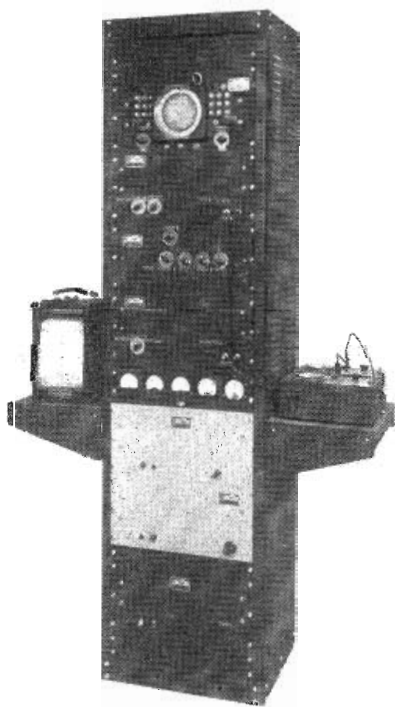

Fig. 4: Waveforms of the correlator using pulse sampling and multiplication of time amplitude coordinates
Waveform (1) of Fig. 4 shows a section of a random time function  $f(t)$ . A sine wave master oscillator is used to derive the timing and sampling pulses of waveforms (2a) and (2b). In addition to wave shaping networks, the sine wave is passed through an R-C phase shift network to give an initial coarse adjustment of  $\tau$ . The timing pulses are then time-modulated in discrete steps, the time modulation being accomplished by means of a stepping relay mounted with precision resistors and connected to a well-regulated supply. There are 90 discrete voltage levels available from the relay. These voltage levels are linearly
period  $T$  as indicated by waveform (3) and (4b), Fig. 4. In this operation the amplitude of the "a" and "b" points are stored on a capacitor in a so-called "box-car" generating circuit.
The amplitude of waveform (3), Fig. 4 is a function of the amplitude of  $f(t)$  at each "a" point,  $a_n$ , giving the desired amplitude coordinate. A linear sawtooth is used to transform the stored amplitude of waveform (4b), Fig. 4, to an equivalent time parameter represented by the width modulated pulses of waveform (5), Fig. 4.
Waveforms (3) and (5), Fig. 4, are then placed in coincidence in a gating circuit, the output being a series of pulses of varying amplitude and width as indicated by waveform (6). The area of each of these pulses is proportional to the product of a pair of points separated  $\tau_k$  seconds in time.
Because of the method of multiplication used, a product of  $a_n b_n$  is always positive with respect to ground, and is positive and negative only with respect to the average dc of the unmodulated pulse train from the multiplier. Initially it was found that the standard deviation of many random time functions under linear operation was only of the order of 10-20% of the dc component of the unmodulated pulses. This, at first, put a seemingly heavy restriction on the accuracy with which measurements of the "random" portion of the correlation function could be measured. If a means for generating an adjustable step function of the input to the integrator is provided, as much of the dc component of waveform (5), Fig. 4, as desired can be cancelled. This feature, together with an integrator sensitivity control, makes it possible to vary and control the final presentation of the correlation function not only in time but amplitude as well.